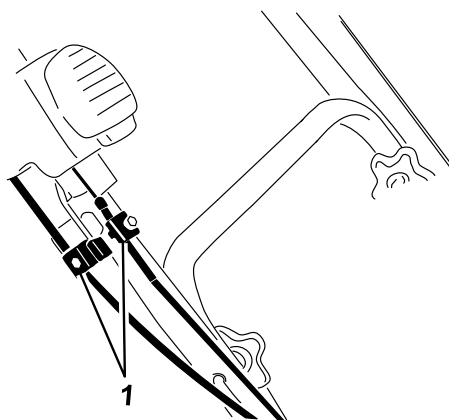

Figure 31
- Loosen the 2 Quick Shoot control-cable clamps (Figure 31).